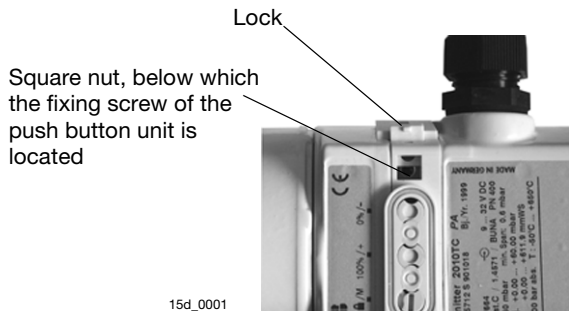

Figure 8. Push button unit - disassembly / assembly
## Assembly / disassembly of push button unit (Figure 8)
- Unscrew enclosure cover of the electronic compartment (see Figure 8) (in case of EEx d type, observe section "Secure enclosure cover for EEx d").